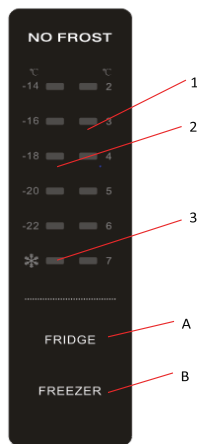

Fig.14
- To maintain the best flavour, nourishment and freshness of foods, it is advisable to store them in the refrigerator compartment as shown in fig14 below, making sure to wrap them in aluminium or plastic sheets or in appropriate covered containers to avoid cross-contamination.